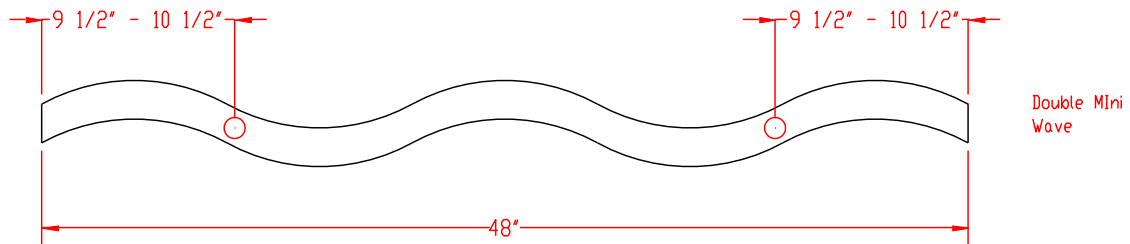

Figure 2: Double Mini Wave Panel
- 1) For vertical application, depending on the size of the wave panel, each 48" long "double mini" wave panel should be equipped with 2 2-7/8" long corkscrew hangers and each 48" long "standard" wave panel should be equipped with 3 2-7/8" long corkscrew hangers, and 4 corkscrew hangers for 96" long panels for the large waves. Maximum distance between hangers should be no greater than 30" for double mini, standard and large wave panels. Use the diagram shown in Figures 2, 3 and 4 below as a guide.
- 4) Mark an even dispersion of suspension points on wave panel as shown in Figures 2 - 7. It is recommended to place 4 corkscrews into the rear of all wave panels, as shown.
- 1) Refer to Figures 2 - 7 above for recommended corkscrew spacing on double mini, standard and large wave panels. For vertical installations, maximum distance between corkscrew hangers should be no greater than 28".